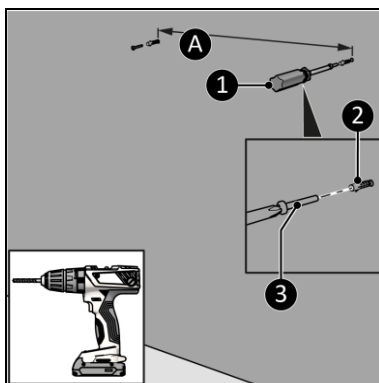

Figure 8
4. Drill two holes with approximately 160 mm between the holes (Figure 8, pos. A). And with a minimal distance from the floor of:
5. Place wall plugs (Figure 8, pos. 2).
6. Screw two large screws (Figure 8, pos. 3) to the wall using a Phillips screwdriver (Figure 8, pos. 1). Let the screws stick out a few millimeters from the wall.